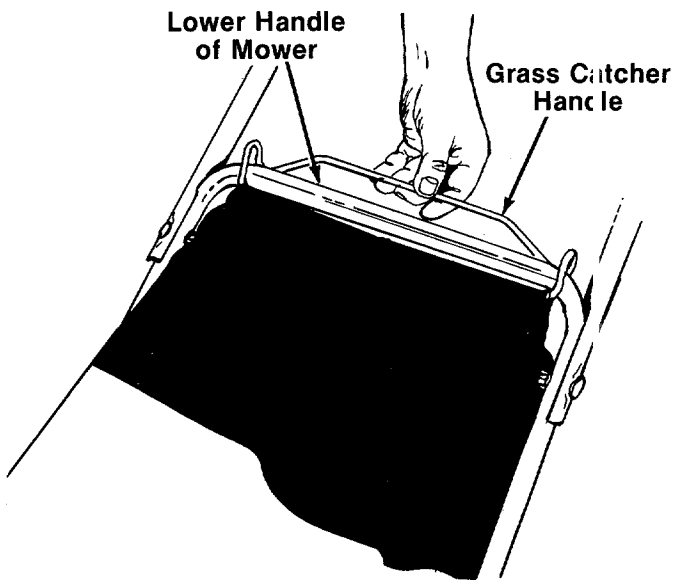

FIGURE 25.
3. Hook the handle on the rear of the grass catcher over the lower handle of the mower. See figure 25.